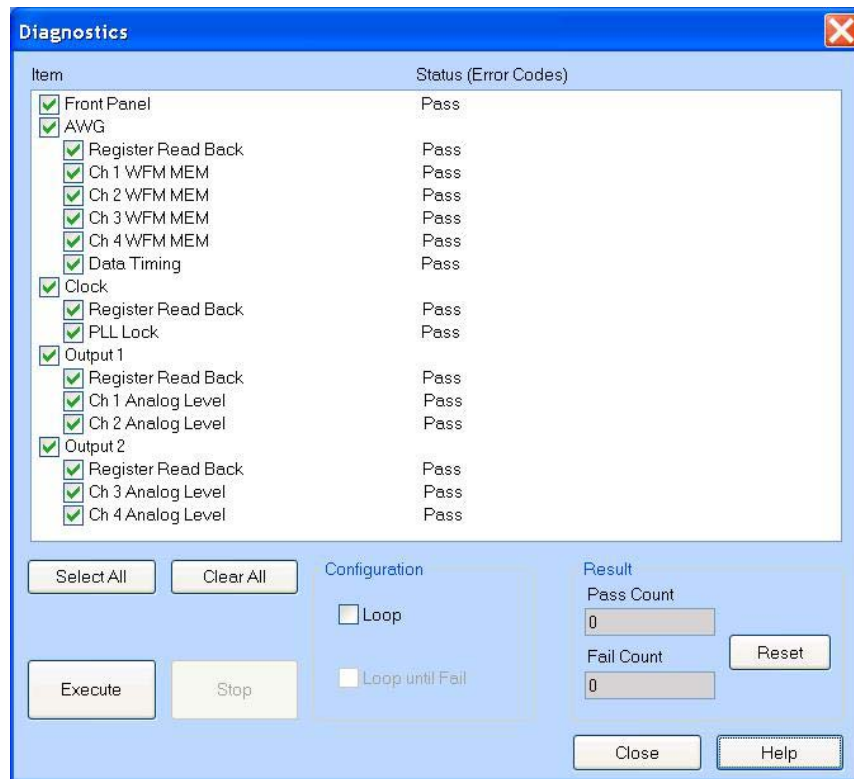

Figure 4-26: Diagnostics dialog box
2. From the menu bar, select **System** and then select **Diagnostics...**; the Diagnostics dialog box appears (see Figure 4-26).